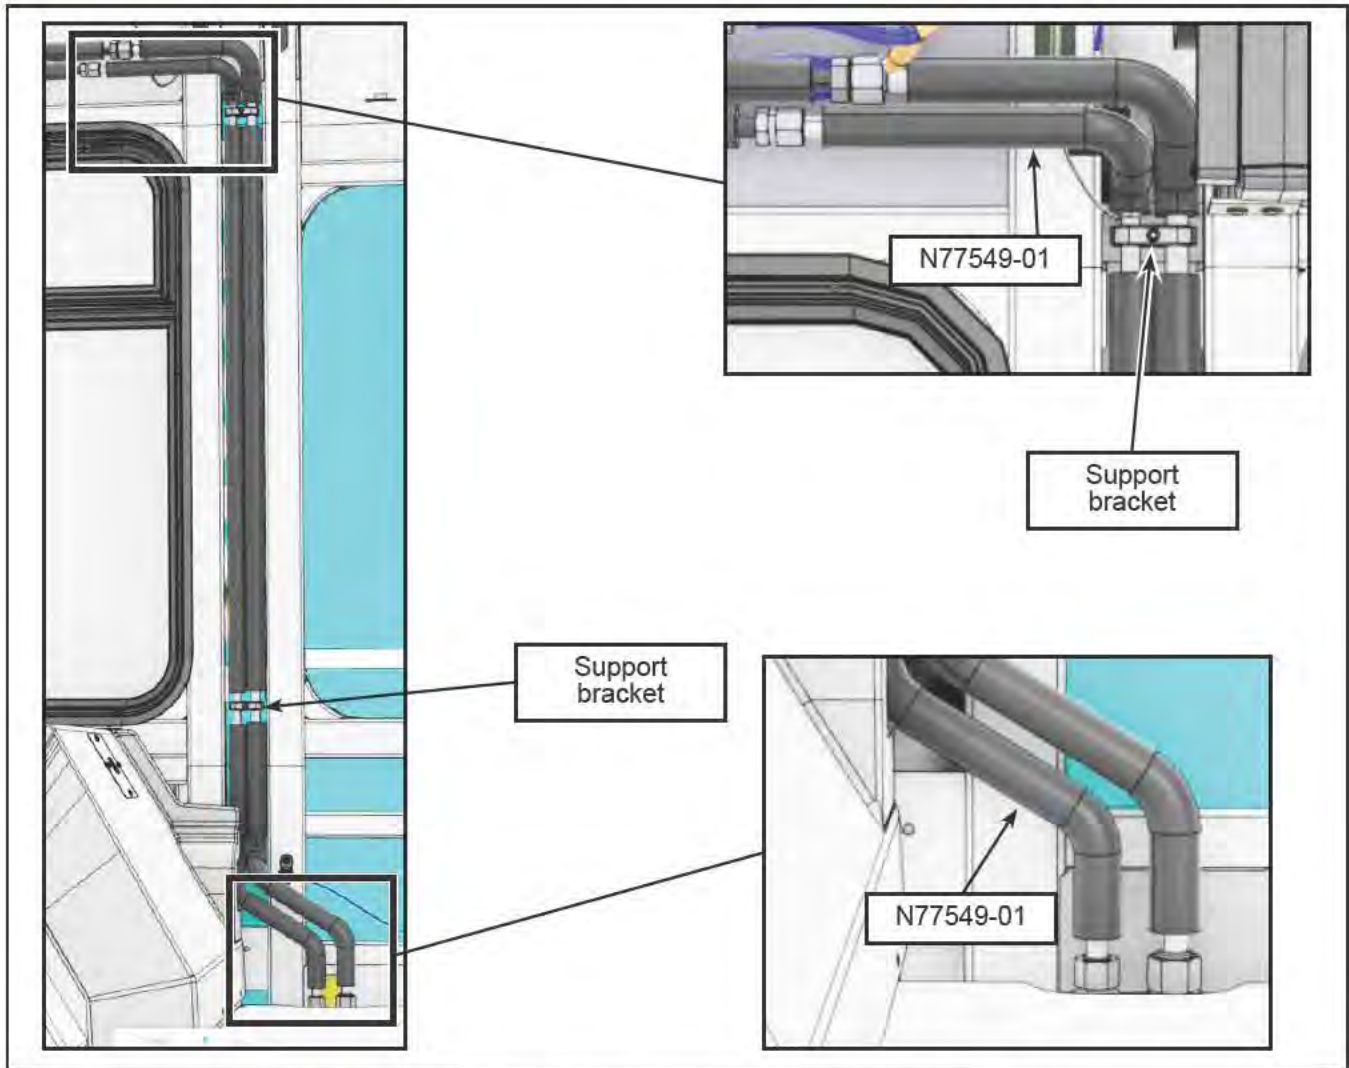

Figure 11 - Hydraulic Pipe N77549-01 (Components Omitted for Clarity)
- 1.18. Locate hydraulic pipe N77549-01 (Figure 11).